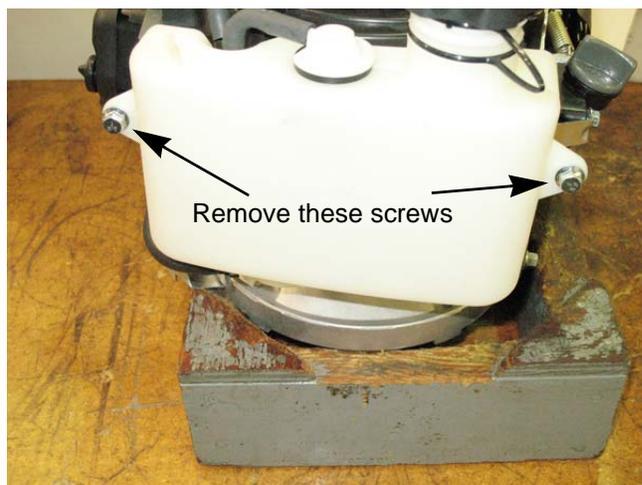

Figure 4.11
5. Remove the top two screws and remove the tank. See Figure 4.11.